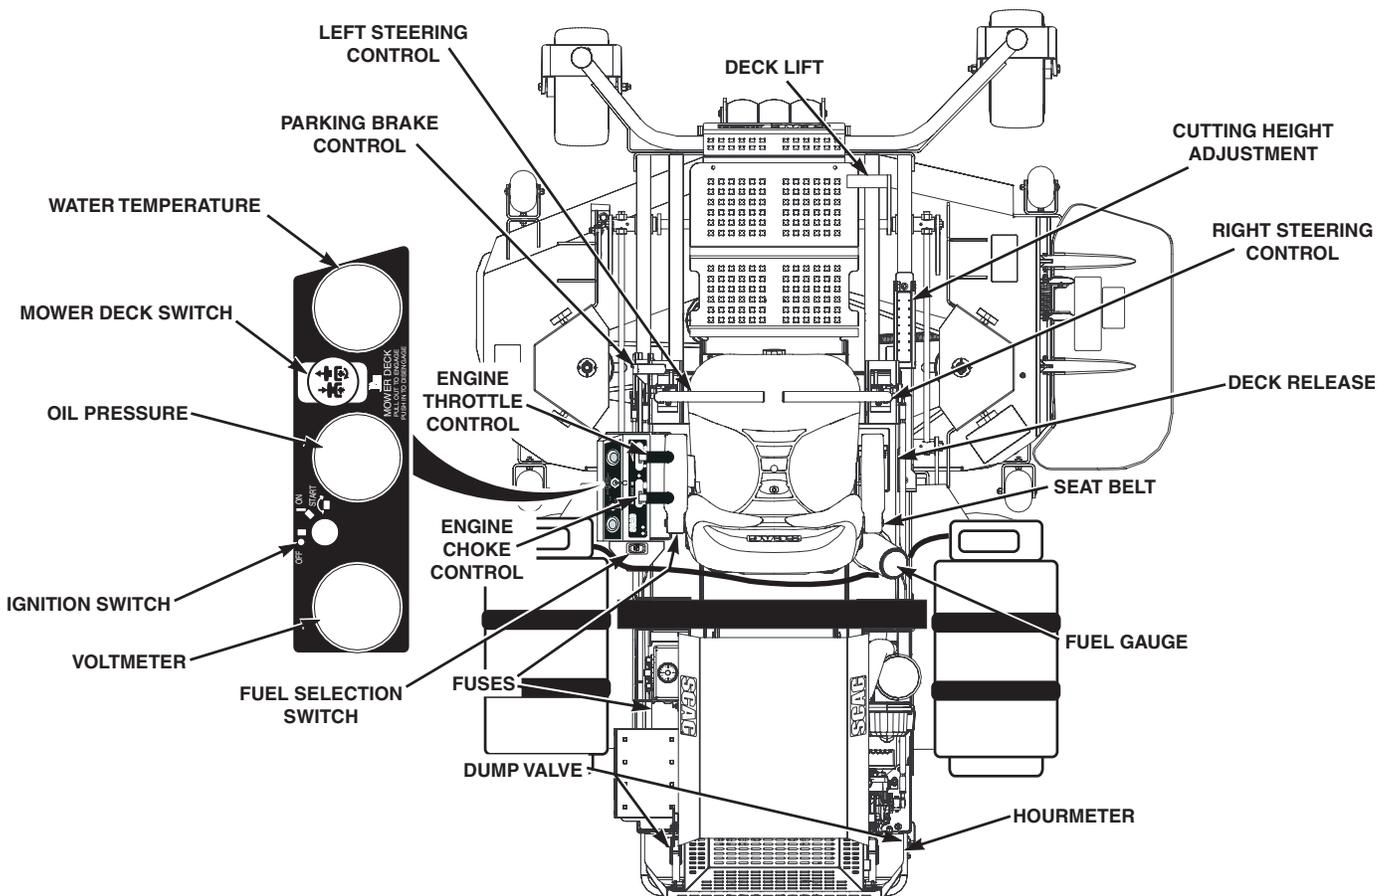

Figure 4-1. Controls and Instruments
1. **Ignition Switch (Figure 4-1).** The ignition switch is used to start the engine and has three positions; OFF, ON, and START.
2. **Mower Deck Switch (Figure 4-1).** Used to engage and disengage the mower drive system. Pulling up on the switch will engage the deck drive. Pushing down on the switch will disengage the deck drive.
3. **Engine Choke Control (Figure 4-1).** Used to start a cold engine.
4. **Engine Throttle Control (Figure 4-1).** Used to control the engine speed. Pushing the lever forward increases engine speed. Pulling the lever back decreases engine speed. Full back position is the IDLE position. Full forward is the cutting position.
5. **Voltmeter (Figure 4-1).** Indicates the condition of the charging system. When the engine is running, in normal operating conditions, the needle should be in the 12 to 14 volt range.
6. **Hourmeter (Figure 4-1).** Indicates the number of hours the engine has been operated. It only operates when the engine is running. Has preset maintenance reminders for engine and hydraulic system oil changes. Will start flashing scheduled maintenance 2 hours before preset time and continue flashing until 2 hours after. Automatically resets.
7. **Fuse Holders (Figure 4-1).** There is one 20 amp fuse and one 50 amp resettable fuse that protect the mower's electrical system. To replace fuses, pull fuse out of the socket and install a new fuse.
8. **Left Steering Control (Figure 4-1).** Used to control the mower's left wheel when traveling forward or reverse.
9. **Right Steering Control (Figure 4-1).** Used to control the mower's right wheel when traveling forward or reverse.
10. **Parking Brake Control (Figure 4-1).** Used to engage and disengage the parking brakes. Pull the lever back to engage the parking brakes. Push the lever forward to disengage the parking brakes.
11. **Fuel Tank Gauge (Figure 4-1).** Indicates the amount of fuel in the fuel tank.
14. **Cutting Height Adjustment (Figure 4-1).** Used to set the cutter deck at the desired cutting height.
15. **Deck Release Lever (Figure 4-1).** Used to lock the cutter deck in the transport position. Push the foot pedal forward and pull back on the release lever to release the cutter deck for normal mowing.
16. **Temperature Gauge (Figure 4-1).** Indicates the operating temperature of the engine. Used on mowers with the liquid-cooled engine only.
17. **Seat Belt (Figure 4-1).** Used to secure the operator. Seat belt must be worn at all times when the ROPS is in the upright and locked position.
18. **Seat Hold Down Release Latch (Figure 4-1).** Located behind the seat. Used to secure the seat in the operator's position. Release the latch to gain access under the seat.
19. **Fuel Selection Switch (Figure 4-1).** Used to select the type of fuel the engine will operate on. Selection can be made for either Gasoline or LP.
13. **Deck Lift Foot Lever (Figure 4-1).** Used to raise and lower the cutter deck. Push full forward to lock in the transport position.